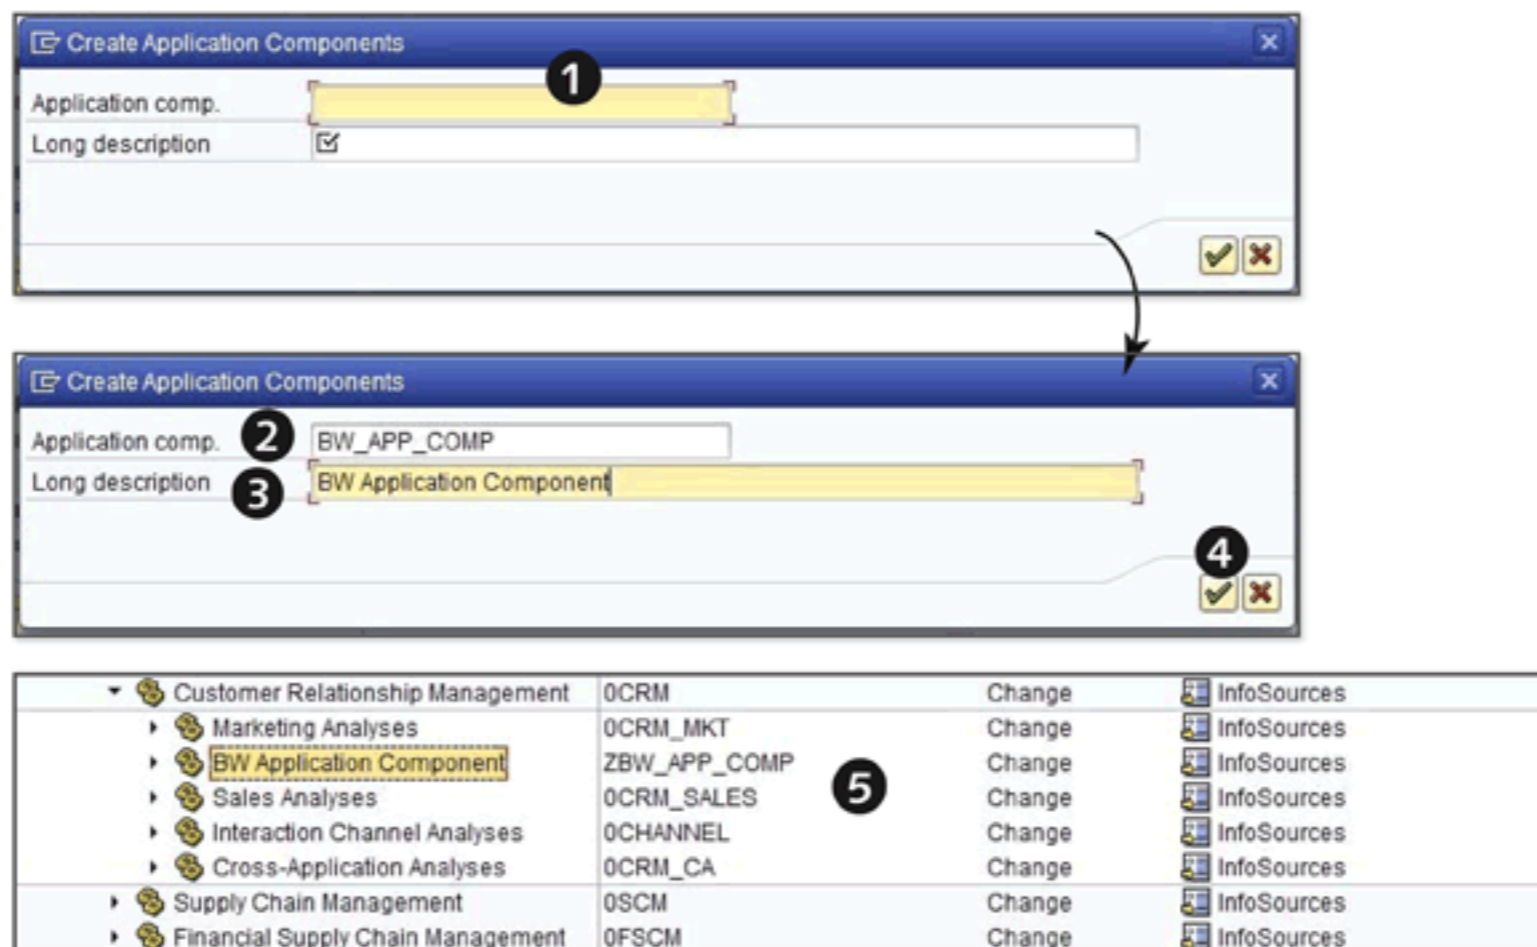

Figure 7.8 Creating Application Component ZBW_APP_COMP
1 of Figure 7.8. Enter the technical name and description of the application component. In this example, we use technical name BW_APP_COMP (2 of Figure 7.8) and the description BW APPLICATION COMPONENT (3). Click on the CONTINUE icon.
The result of this action is visible in 5 of Figure 7.8. BW APPLICATION COMPONENT is now available under CUSTOMER RELATIONSHIP MANAGEMENT, and the system has added the prefix "Z" to the technical name (5), which indicates that it's a customer-defined application component.